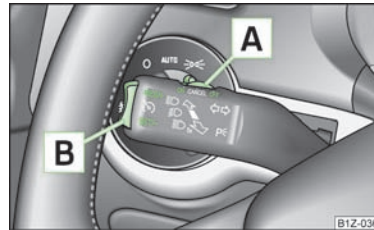

Fig. 100
- Turn the switch **A** » Fig. 100 into the **ON** position.
- Press the rocker button **B** » Fig. 100 into the **RES** position.
The cruise control system is **temporarily switched off** by pressing the switch **A** » Fig. 100 into the spring-tensioned position **CANCEL** or by depressing the brake or clutch pedal.
- Turn the switch **A** » Fig. 100 into the **OFF** position.